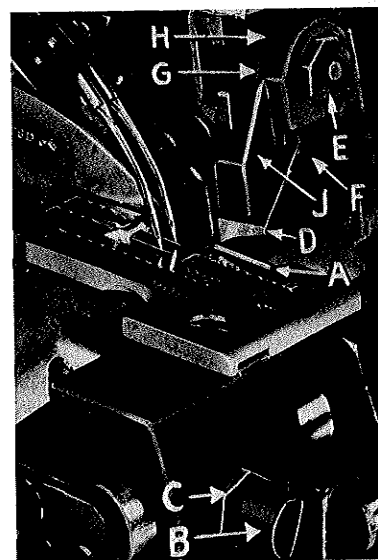

Fig. 13
Replace upper knife assembly. Clamp upper knife (D, Fig. 13) in position, setting nut (E) to hold clamp (F) in its most clockwise position against upper knife. Upper knife chain guard (J) should be positioned so that the guarding section is approximately  $1/64$  inch (.40 mm) behind the cutting edge and in contact with the top surface of the upper knife.